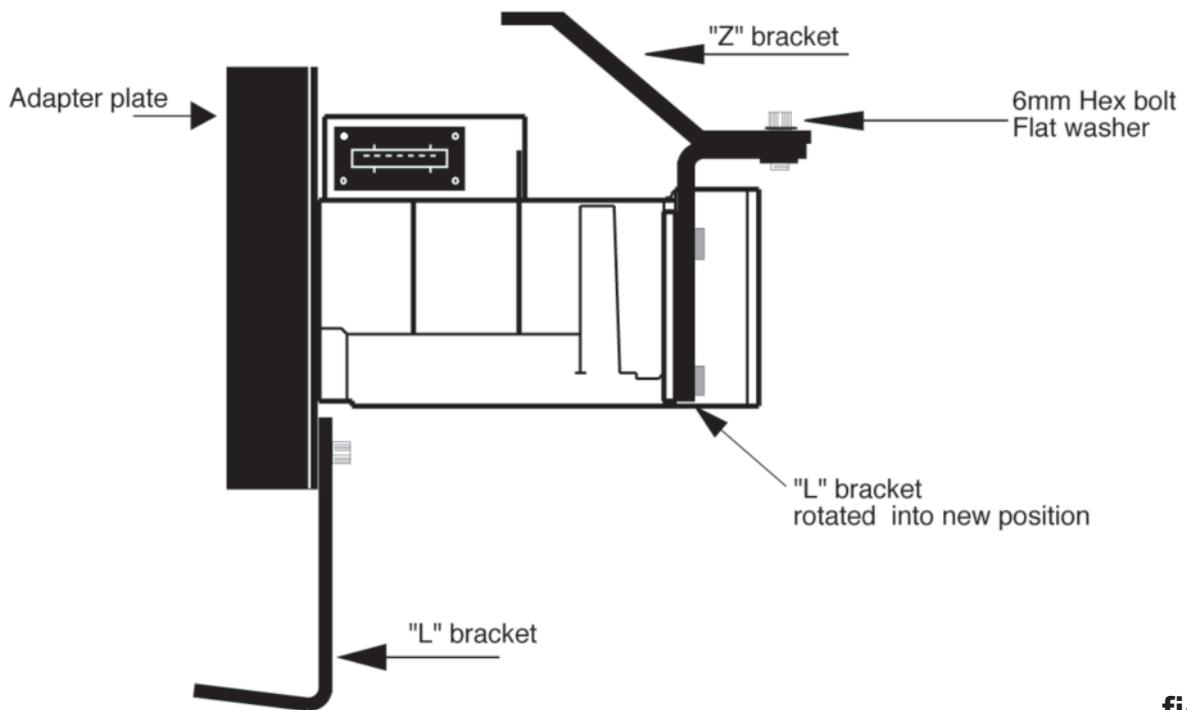

fig. 3
- 11) Unbolt the small angle bracket at the back of the mass-air-sensor and rotate 180'. after this is done you may Bolt the "z" bracket to "L" bracket, using supplied hardware. (see fig. 3)